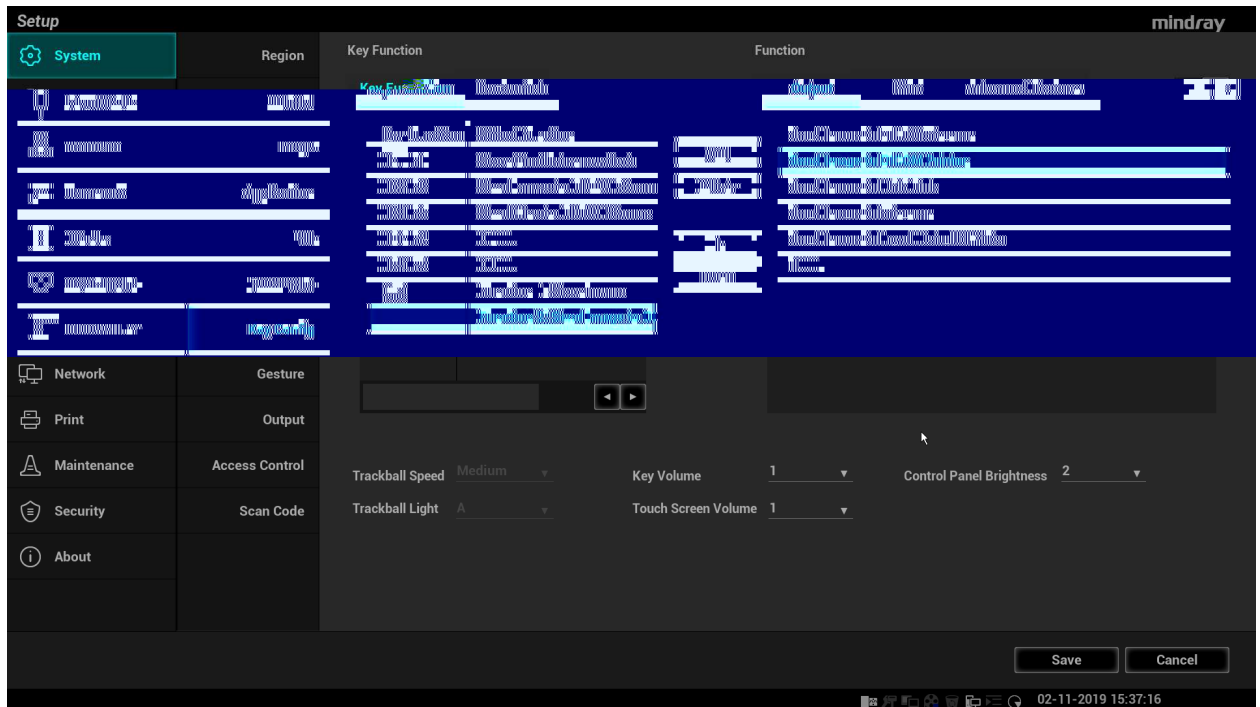

Figure 1 Send to #C%M 5rint 9hen 5ressin! 0ser-de4ined \*ey
2. As shown in figure 1+ Send to #C%M printer when pressed user-defined key.